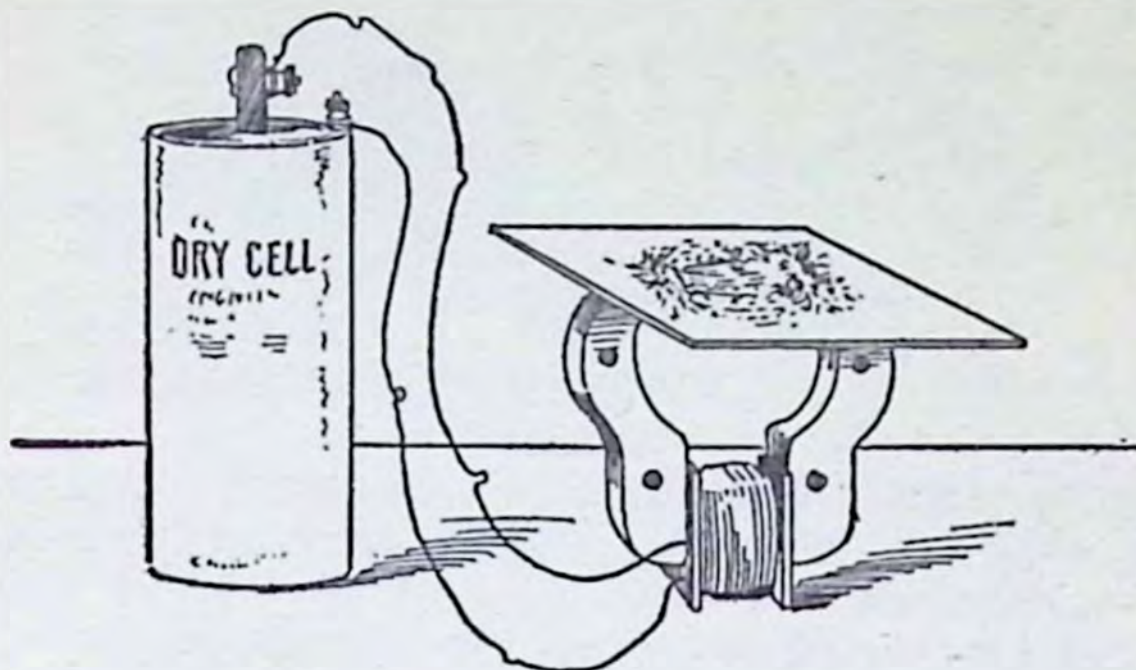

Fig. 9
(9) **HOW TO TRACE THE MAGNETIC FIELD:** Connect the coil of the field magnet to the dry cell, or battery, as shown in Fig. 9. Now lay the field magnet flat on a table, or other level surface, and on the poles of it lay a business card or a sheet of glass. Sprinkle some iron